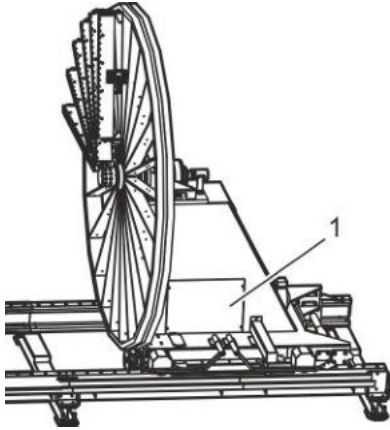

Fig. 87: Cover of the cage pull-out wheel drive
2. Remove cover (Fig. 87/1) on the cage pull-out carriage.
6. Attach cover (Fig. 87/1) on the cage pull-out carriage.